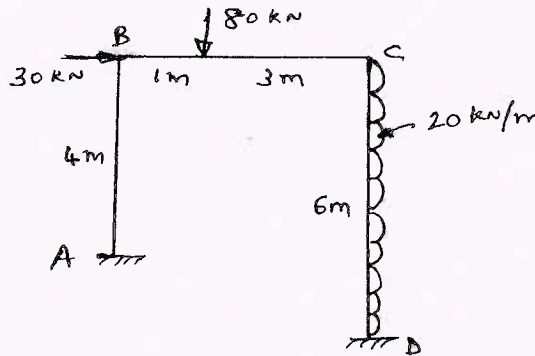

Fig Q2
- 2 Analyse the portal frame shown in Fig Q2 by slope deflection method. Draw bending moment diagram.